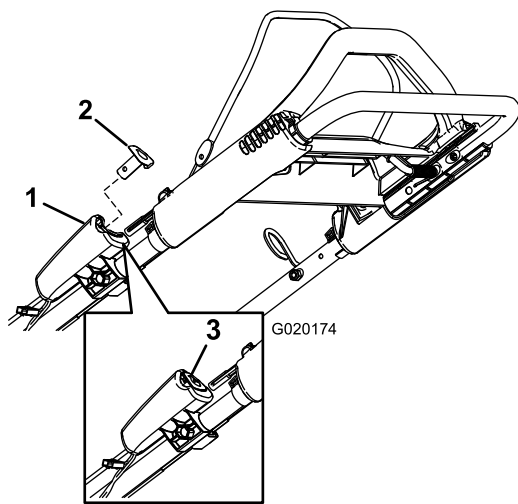
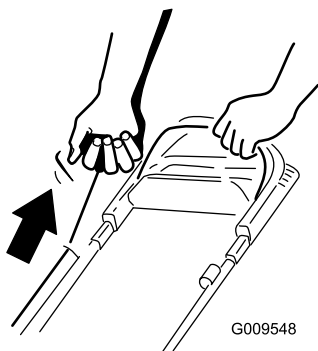

Figure 15
Figure 16
2. Push the electric-start button (Figure 15) or pull the recoil-start handle (Figure 16) lightly until you feel resistance, then pull it sharply, and allow it to return to the rope guide on the handle slowly.